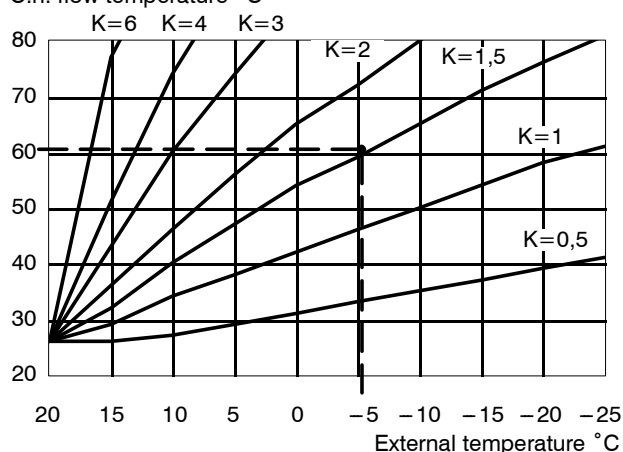
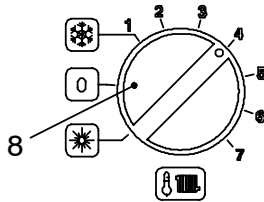

Fig. 7.7
Fig. 7.11
The curves given in the chart of Fig. 7.7 represent the c.h. flow temperature setting as a function of the external temperature measured by the external temp. probe.
The relationship between the external temperature and the c.h. flow temperature is represented by the coefficient K (Fig. 7.7) that can be set between 0 and 6 as hereafter explained.
E.g. to obtain a flow temperature setting of 60 °C when the external temperature is -5 °C, K must be set to 1,5 (dashed line in Fig. 7.7).
After setting the coefficient K, position the knob 8 as shown in Fig. 7.11 in order to obtain the c.h. flow temperature accordingly with the chart of Fig. 7.7.